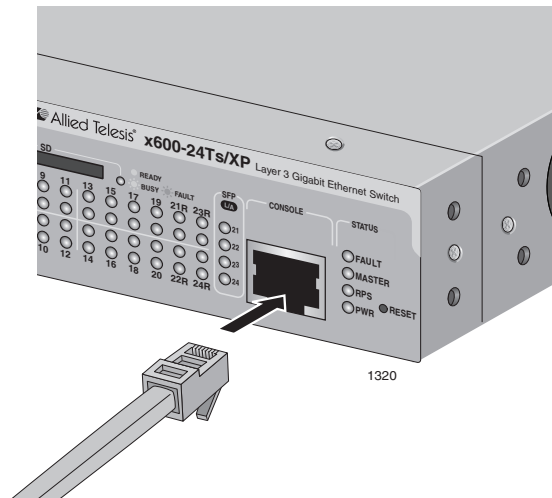

Figure 30. Connecting the Management Cable to the RJ-45 Terminal Port on the Switch
1. Connect the RJ-45 end of the management cable included with the x600 switch to the Terminal Port on the front panel of the switch, as shown in Figure 30.